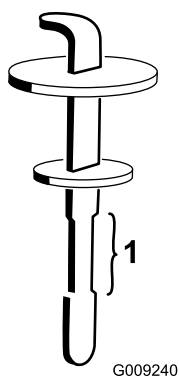

Figure 88
5. Remove the dipstick from the filler neck and wipe it with a clean rag. Insert the dipstick into the filler neck, then remove it and check the fluid level (Figure 88).